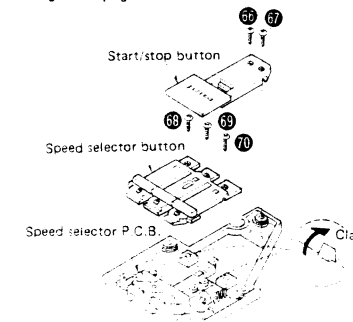

Fig. 16
4. Remove the 2 setscrews (Fig. 16 : 66, 67) of the start/stop button.
5. Remove the 3 setscrews (Fig. 16 : 68 ~ 70) of the speed selector button.